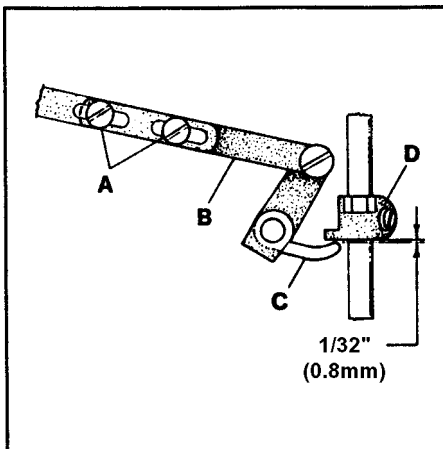

FIG. 22
Replace the presser spring and the presser bar regulating screw. Loosen screws (A, Fig. 22) in lifter lever link assembly (B) and position lever (C) so there is $1/32$ " (0.8mm) clearance between it and presser bar guide (D) when the feed dogs are below the throat plate.
Make sure the $1/32$ " (0.8mm) clearance between the presser bar lifter lever and presser bar guide has been maintained. Refer to Fig. 22 if readjustment is necessary.